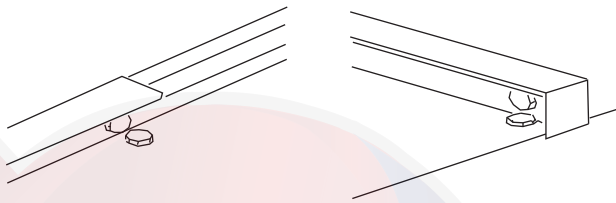

Fig. 8 — Bolt Standing Seam, Install Roof Cleat
- Caulk and bolt standing seam and install the roof cleat. See Fig. 8.